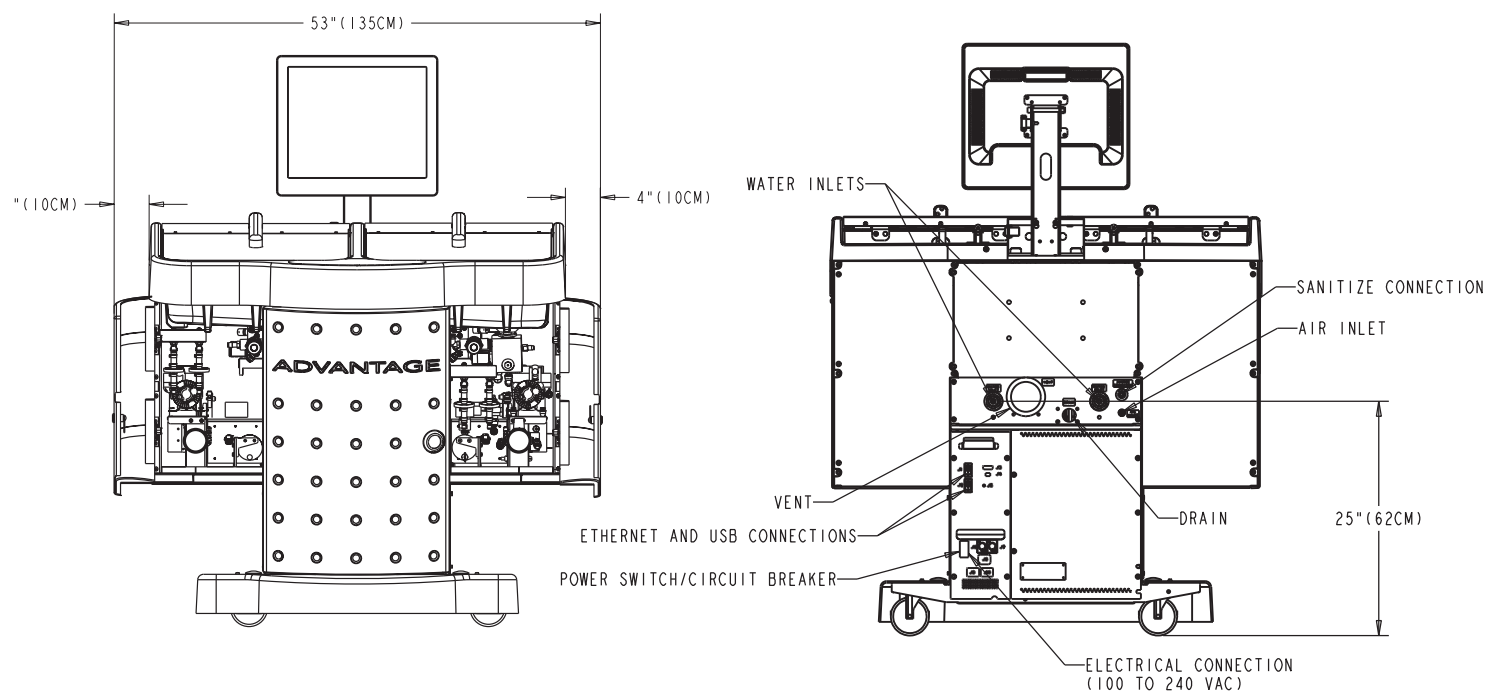
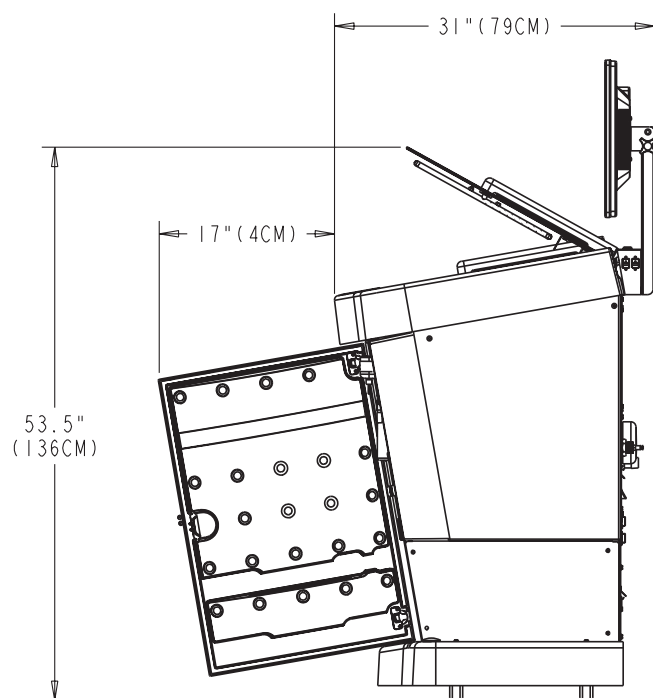

Figure 1. Front & Back Dimensions
Figure 2. Side Dimensions & Clearance
- The ADVANTAGE PLUS Endoscope Reprocessor physical dimensions are 62" H x 49" W x 31" D, weight 400 lbs. Refer to Figure 1 and Figure 2 below.